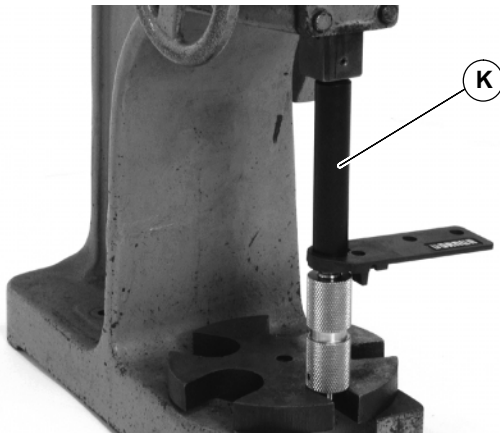

Figure 8
8. With bearing installed in head plate, use a bearing installation tool, (K of Figure 8), part number 450292, to press the bearing onto the drive shaft.